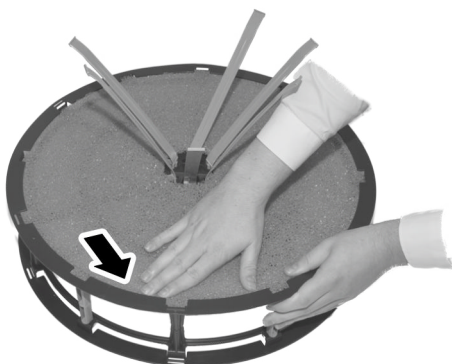

Fig. 25: Laying down the evaporator filter and fixing it in place
7. ➤ Pull the new inner evaporator filter tight with the terminal strips (Fig. 25).